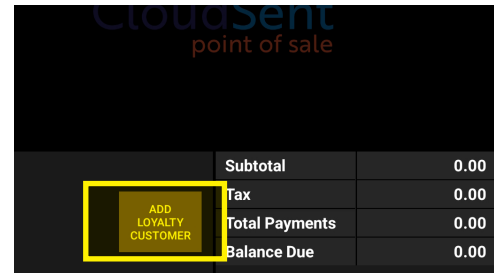

Figure 75
1. Select Add Loyalty Customer in the lower left hand side of the screen. (Figure 75).